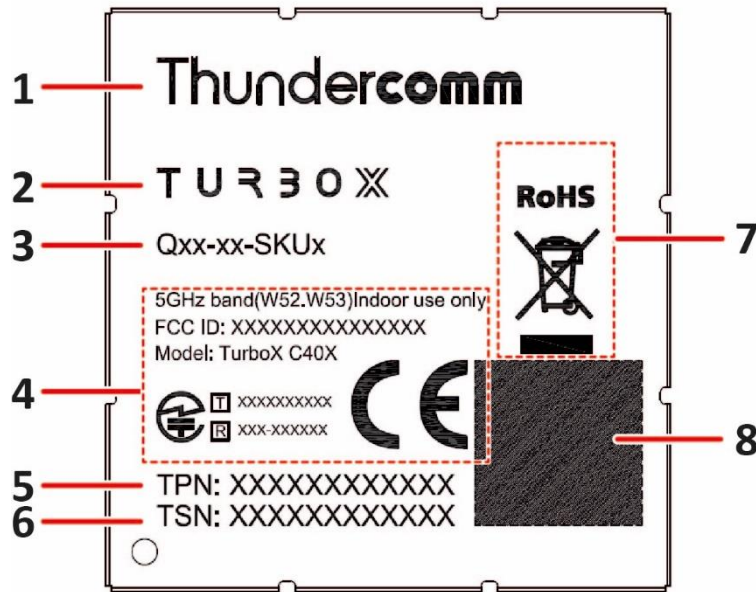

Figure 1-7. C40x SOM Module Laser Marking
- Figure 1-7 is for reference only and may vary with the specific module.